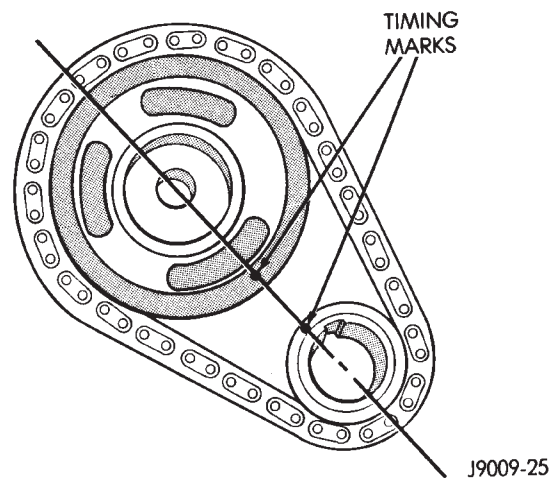
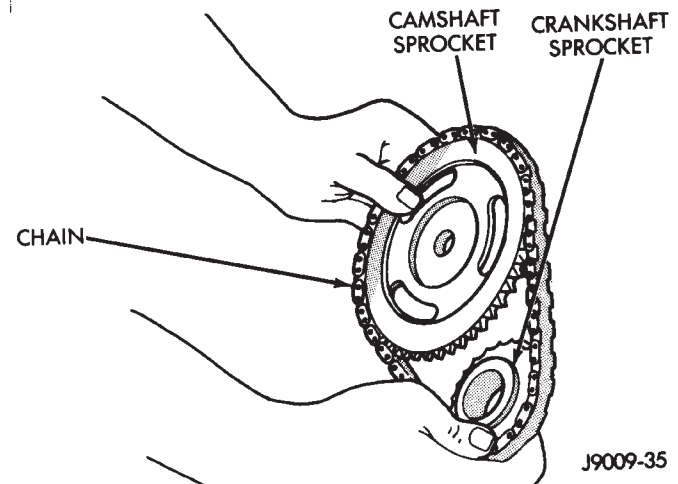

Fig. 12 Timing Chain Alignment
Fig. 13 Camshaft and Crankshaft Sprocket and Chain
- (7) Remove the serpentine drive belt.
- (8) Remove the crankshaft vibration damper.
- (9) Remove the timing case cover. Clean the gasket material from the cover.
- (10) Rotate crankshaft until the crankshaft sprocket timing mark is closest to and on the center line with the camshaft sprocket timing mark (Fig. 12).
- (11) Remove camshaft sprocket retaining bolt.
- (12) Remove the crankshaft oil slinger.
- (13) Remove the sprockets and chain as an assembly (Fig. 13).
- (1) Clean the camshaft pin hole.
- (2) Compress the center of the replacement spring pin with vise grips.
- (3) Carefully drive the pin into the camshaft pin hole until it is seated.
- (4) Install the camshaft sprocket, crankshaft sprocket and timing chain with the timing marks aligned (Fig. 12).